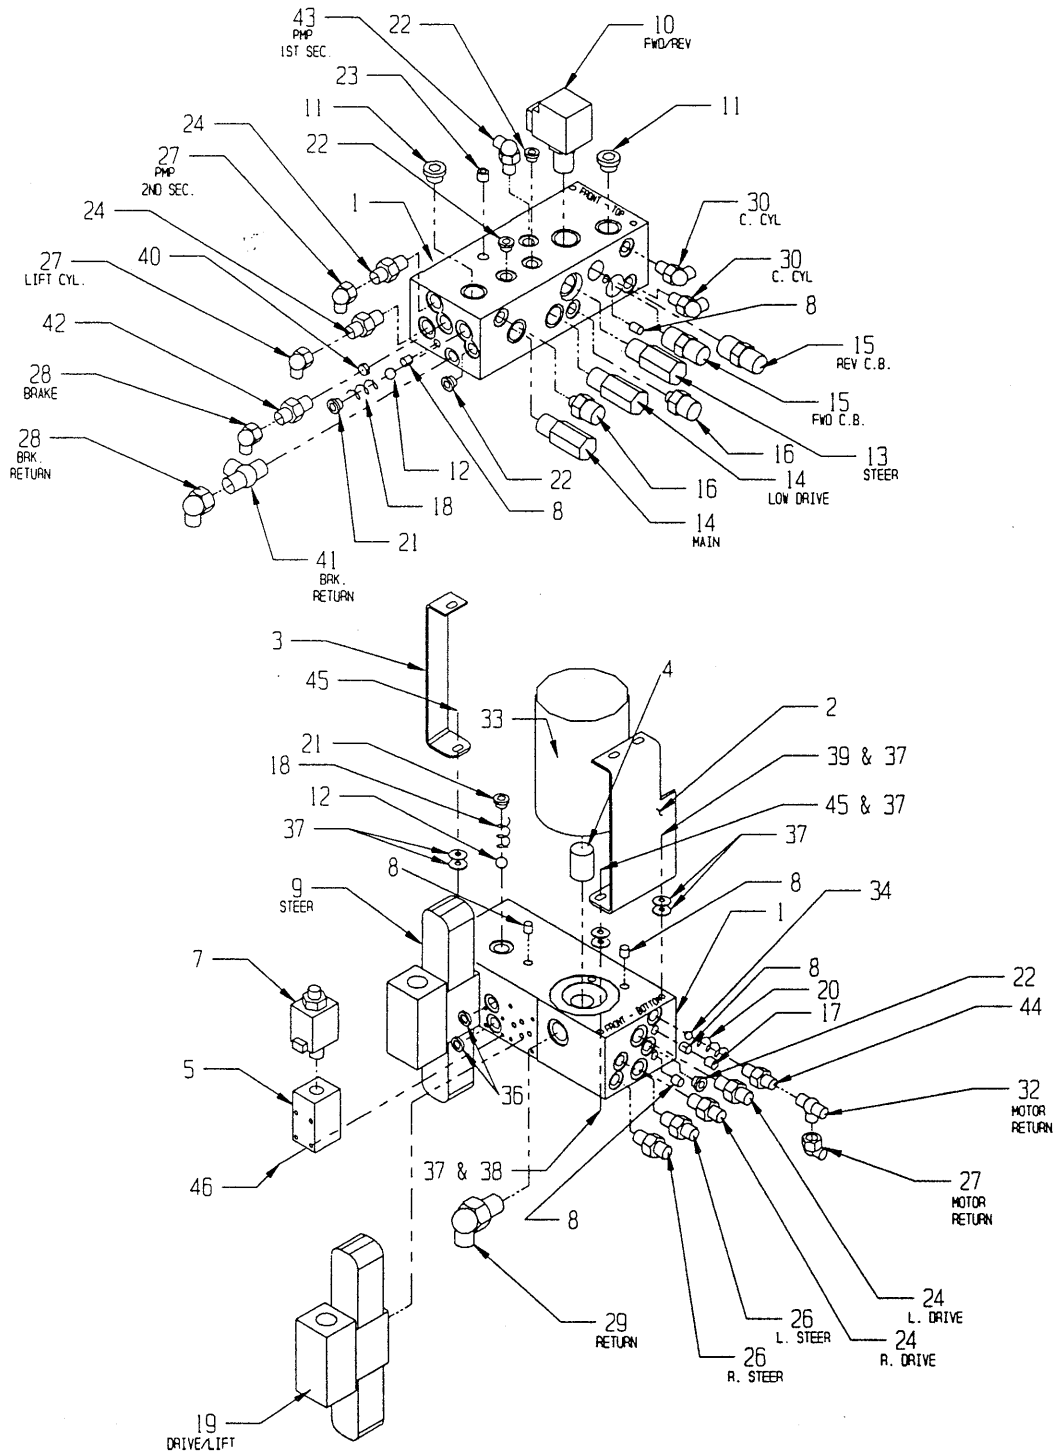

Figure 4-7: Hydraulic Manifold, Exploded View
## 4.7 Hydraulic Manifold (Figure 4-7)
**NOTE: Mark all components as they are removed so as not to confuse their location during assembly. Refer to Figure 4-7 often to aid in disassembly and assembly.**